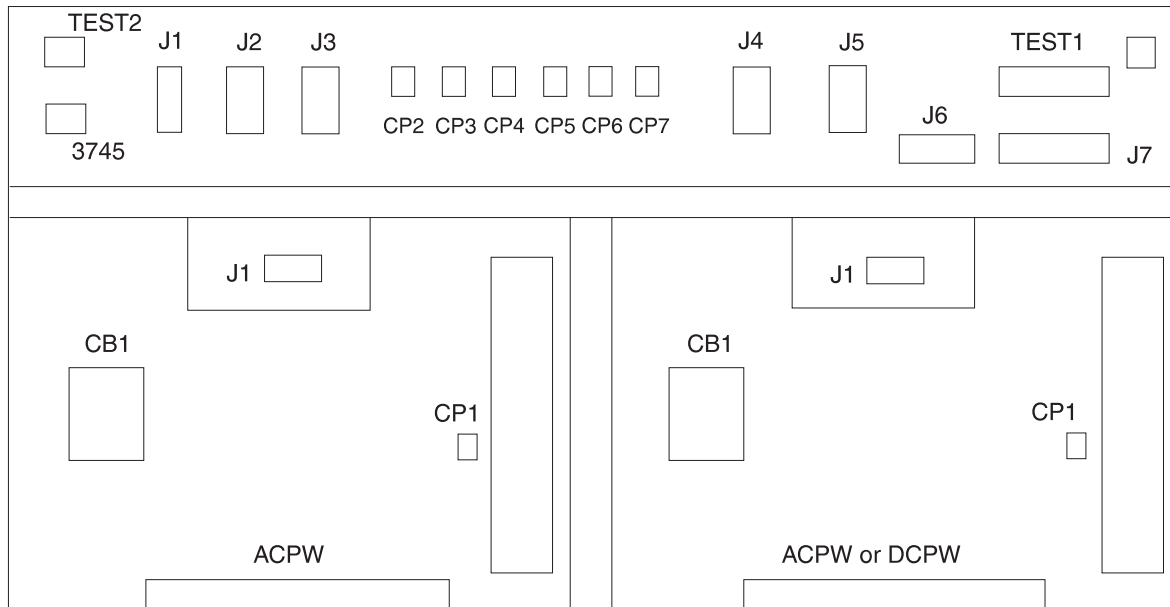

Figure 2-2. DCDP and Power Boxes
– Check the position of CB1 on the basic ACPW box. See Figure 2-2 on page 2-5.
– Check CP1 on the ACPW box. See Figure 2-2 on page 2-5.
– Check CP2 and CP3 on the DCDP. See Figure 2-2 on page 2-5.
– Check CP4, CP5, CP6, and CP7 on the DCDP. See Figure 2-2.
– Measure the 'dc sense 1' -48v at the Test 1 connector pin 5 as shown in Figure 2-2. Refer to YZ page 234 for test 1 pin assignment.